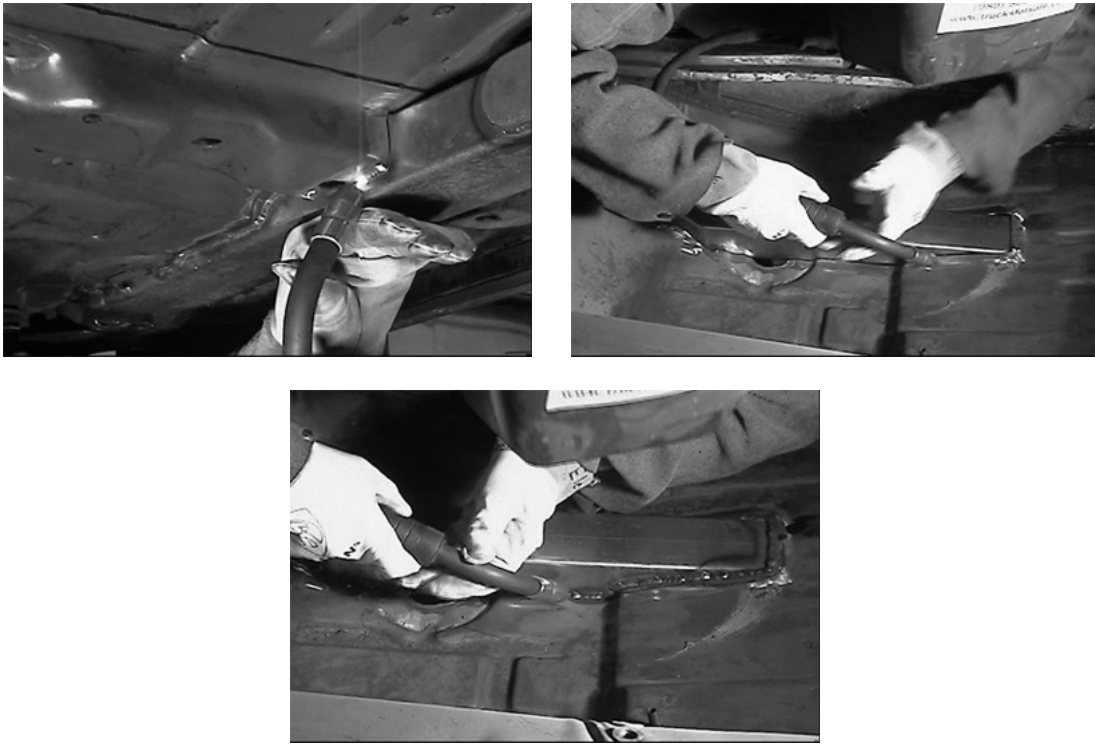

Figure 14
18. Next, weld the floor pan and rear frame rail to the connector; this should be done in short segments to avoid excessive heat build-up in the thin floor pan. The connector should be welded from both the top and the bottom of the floor pan. (Figure 14)